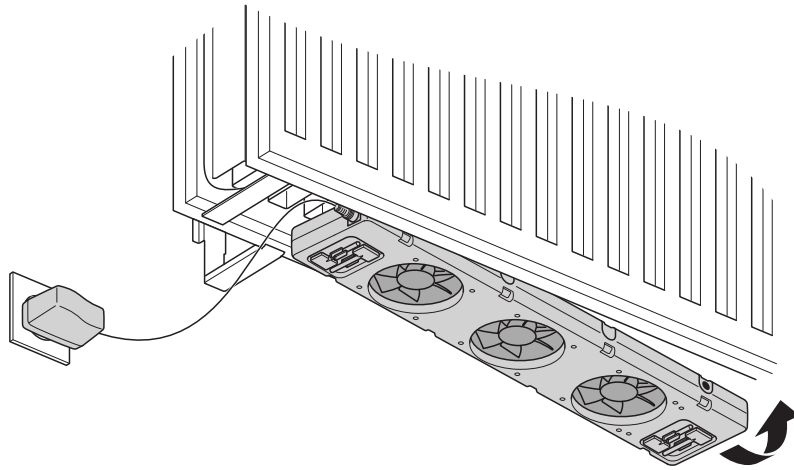

Fig. 2 – Attaching the SpeedComfort (A).
- Choose a spot where the wall brackets and radiator supports will not be in the way. Attach the **SpeedComfort** (A) to the underside, between the panels of the radiator, using the **adjustable magnets** (B) (see Fig. 2). The SpeedComfort (A) can also be mounted at the top of the radiator, beneath a cover cap.